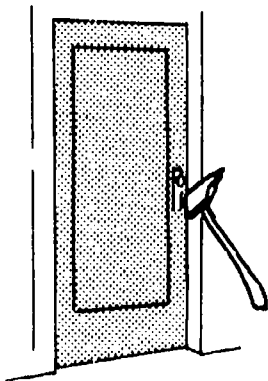

Figure 14. Opening Door With Axe
**Single-Hinged Door.** All single-hinged doors in places of business should open outward. Single-hinged doors that open outward may be opened from the swing side with an axe, as shown in Figure 14. The